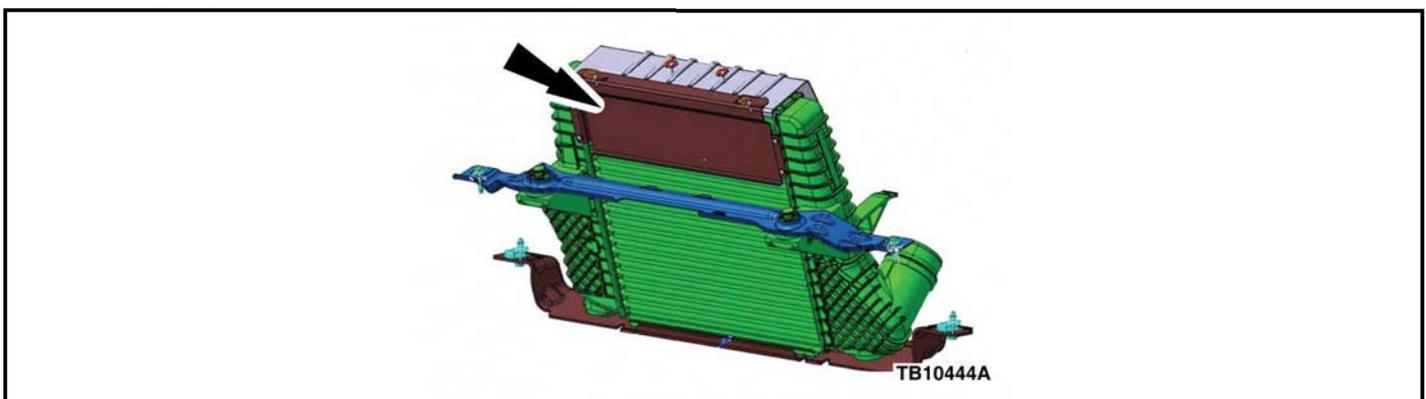
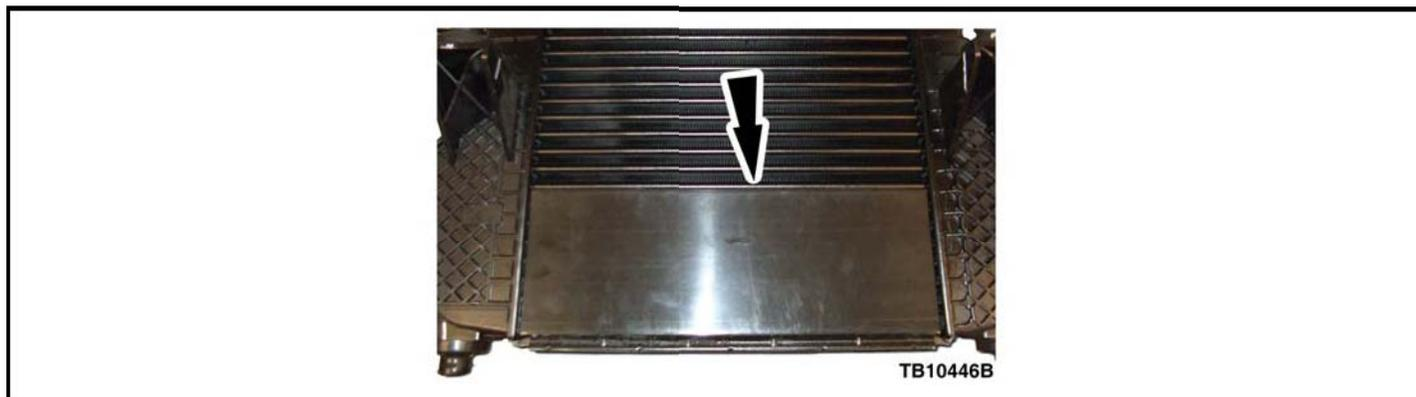

Figure 2 - Article 14-0017
Figure 3 - Article 14-0017
5. Is the charge air cooler equipped with a top or bottom air deflector? (Figure 2 and Figure 3)